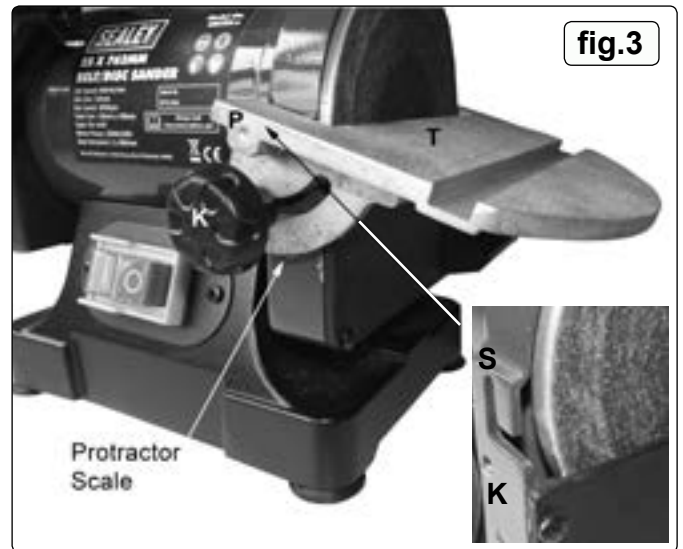

fig.3
- 5.2.1. On each inner mounting face of the sanding table adjustment scales there is a spigot which acts as a hinge point when adjusting the angle of the table. See fig.3 (P). Hold the sanding table (T) in the position shown in fig.3 above, slide the spigots into the 'L' shaped slots either side of the sanding disc until the table stops, then lift the table up until the spigots stop at point (S) on either side. Retaining the table in this position, insert a clamping knob (K) through the curved slot in one of the sanding table adjustment scales and screw it into the threaded hole provided in the flange around the disc. Tighten the knob to hold the table in position and then screw the second knob 'K' into position on the other side of the table.